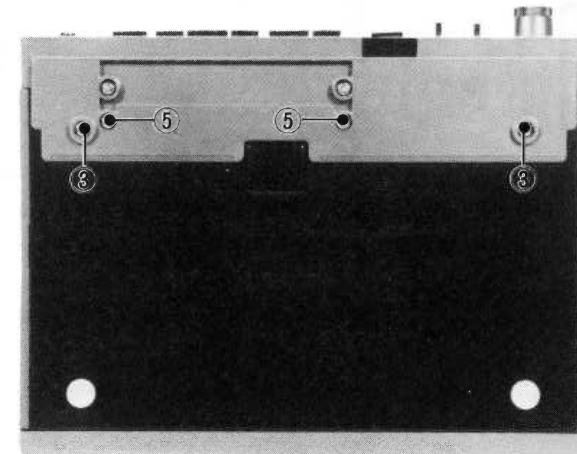

Fig. 23
2. Bottom cover (Fig. 23, 24)
- (1) Remove 2 screws (3) = SDSP3006R fixing the bottom cover.
- (2) Remove 3 screws (4) = LPSP3006C fixing the cassette amp. P.W. Board (on the pattern side).
3. Front cover (Fig. 23, 25, 26)